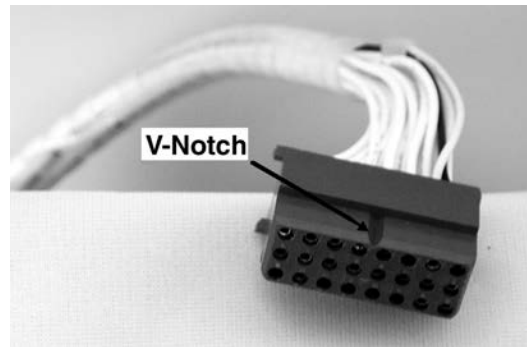

Figure 6 M-2001 Harness Connector
■ **NOTE:** The blue connector is keyed by a "V" notch in the middle to prevent incorrect mating (Figure 6). Check location of the key before plugging connector into the M-2001.